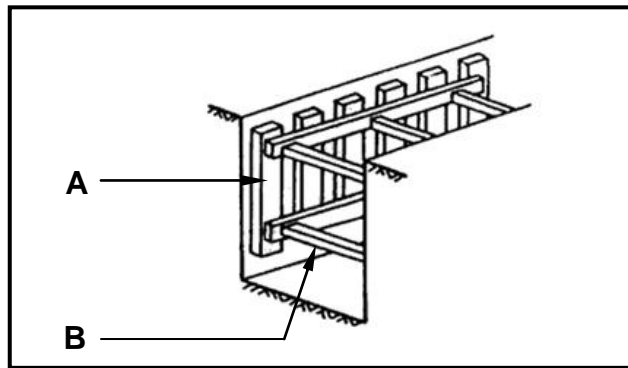

FIGURE 3.3
3.3 FIGURE 3.3 below is a drawing of a type of shore used in trenches. Study the drawing and answer the questions that follow.